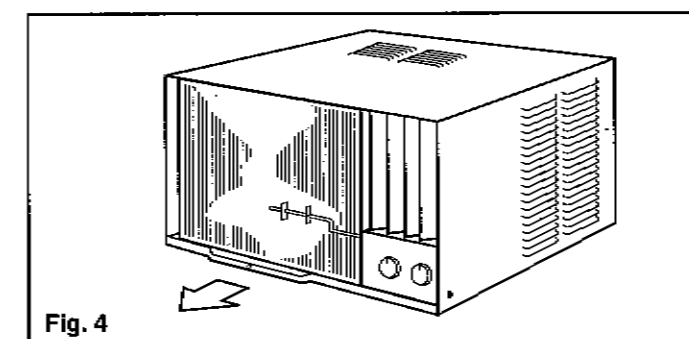

Fig. 4
- Grasp the pull handle at the front of the slide-out-chassis and carefully slide the air conditioner out of the cabinet. (Fig. 4)